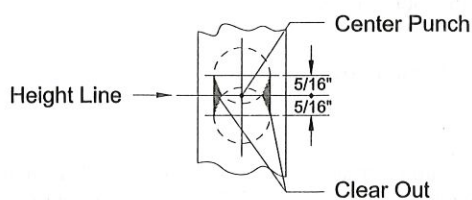

Figure 3
- Drill two 1" diameter holes, located 5/16" above and below the center punch to a depth of 1 1/8". See Figure 3.